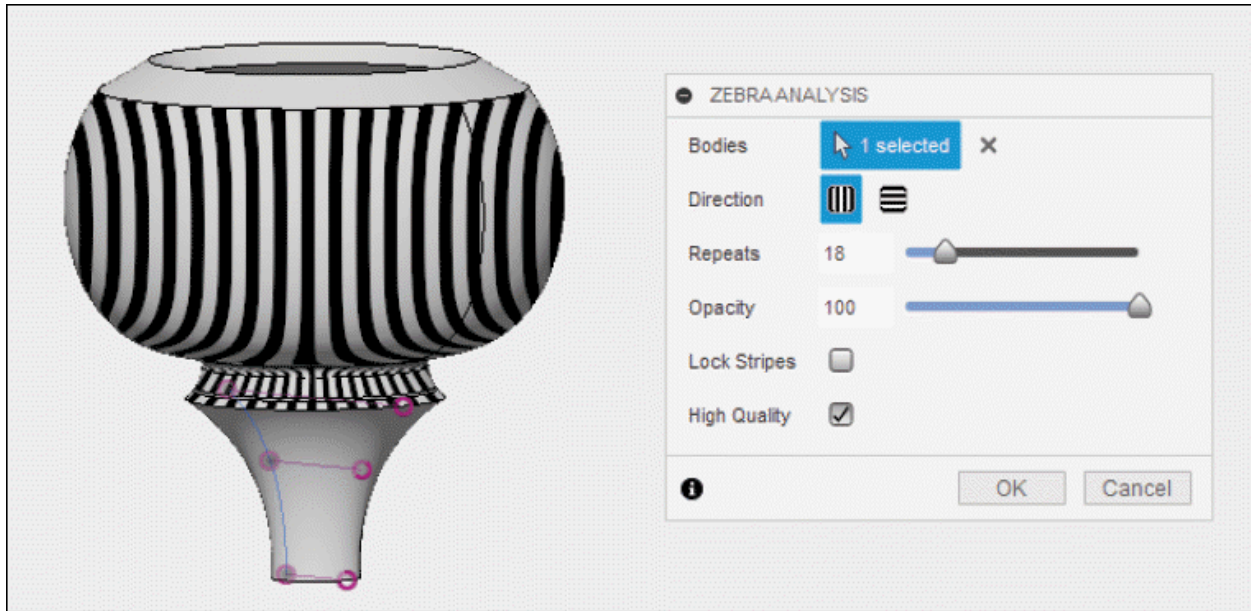

Figure-46. Selection of body for zebra analysis
- On selecting the body, preview of zebra stripes will be displayed; refer to Figure-46.